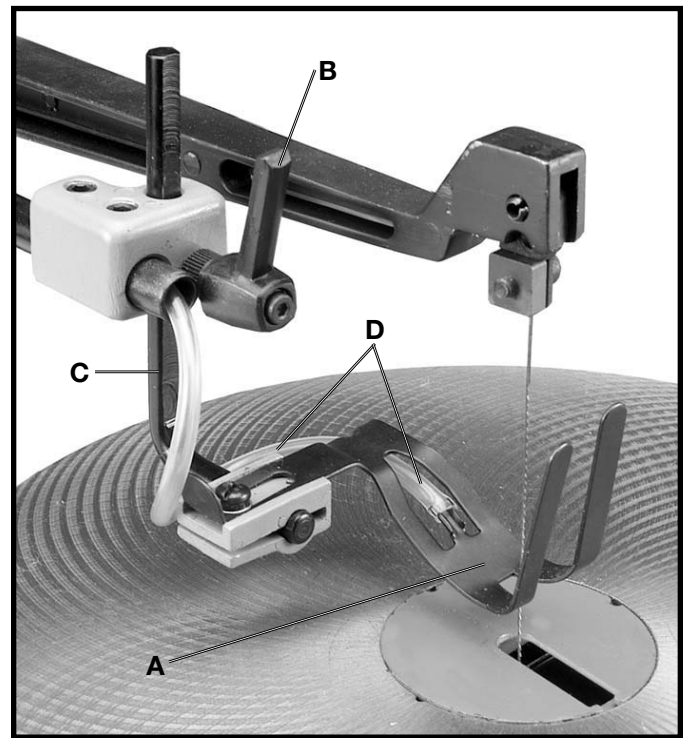

Fig. 24
The bottom of the holddown (A) Fig. 24, should be adjusted so it contacts the top surface of the work being cut by loosening lock handle (B) and moving holddown assembly (C) up or down. Then tighten lock handle (B). **NOTE:** Lock handle (B) is spring-loaded and can be repositioned by pulling out handle and repositioning on the nut located directly underneath the hub.
A dust blower (D) Fig. 24, is supplied with your saw to direct air to the most effective point on the cutting line. Make sure end of hose (D) is connected to the holddown (A) as shown.